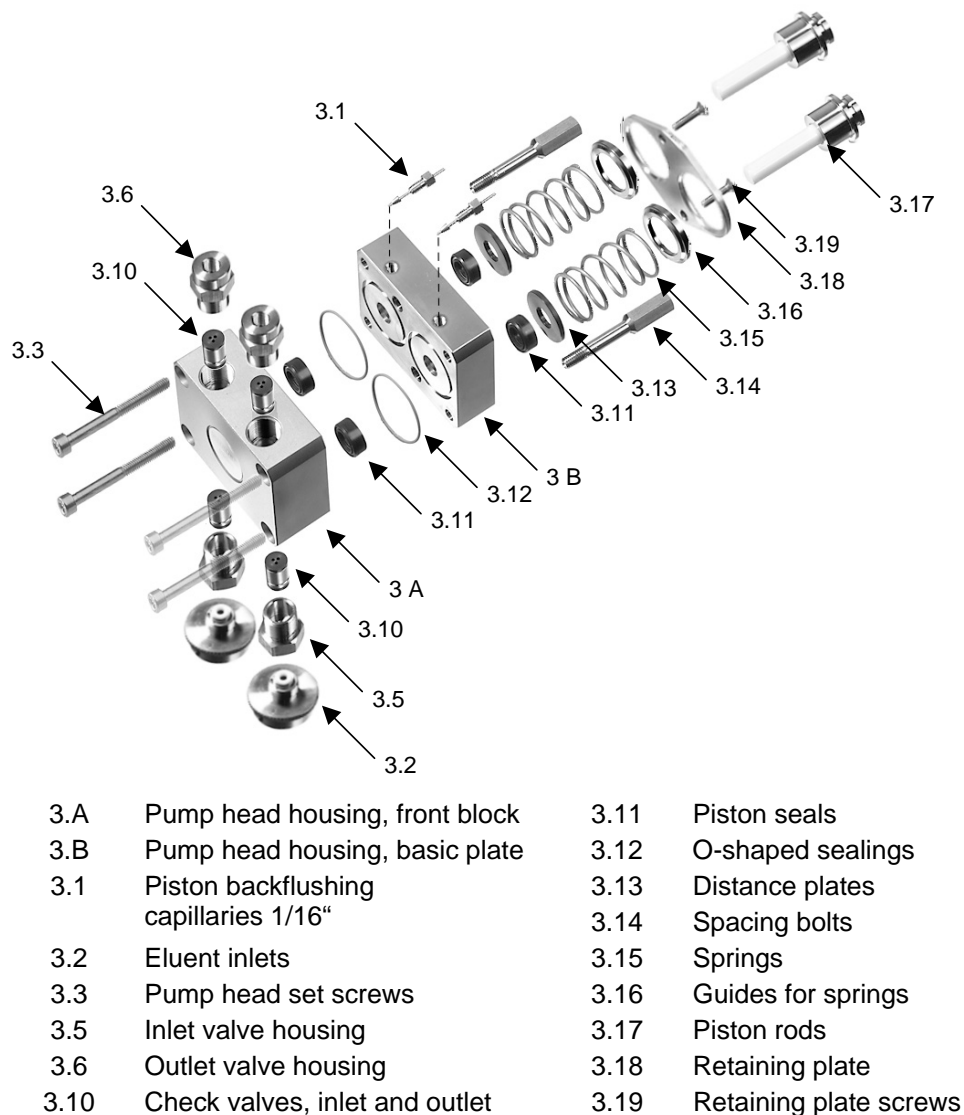

Fig. 12 Explosion diagram of pump heads
2. The „Piston rods“, Pos. {3.17} in Fig. 12 on page 13 may be removed using pliers. Take the tip of the piston using the pliers, and pull it out carefully in a straight line.
All positions of components refer to Fig. 12 „Explosion Diagram and list of parts of 100 ml, 250 ml, and 1000 ml pump heads“ on page 13.